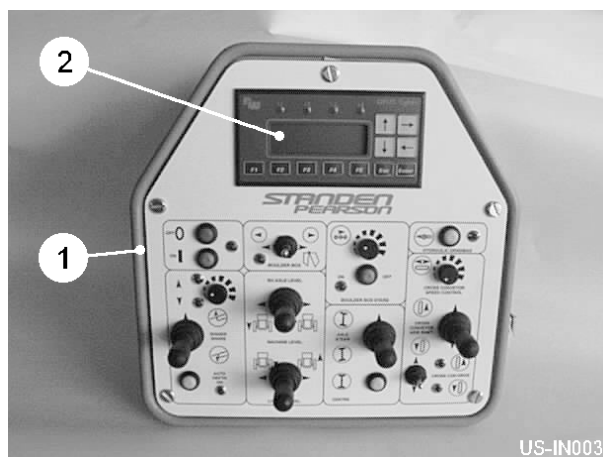

Fig 5
Control for the major functions of the Standen Uniweb are provided electronically by the switches mounted on the in-cab control box (item 1, fig 5) switching the valves on the machine via a CAN-Bus control system. The functions can be monitored from the control box display screen (item 2, fig 5). Setting and monitoring can be carried out by following the instructions in the CAN-Bus operating instructions.